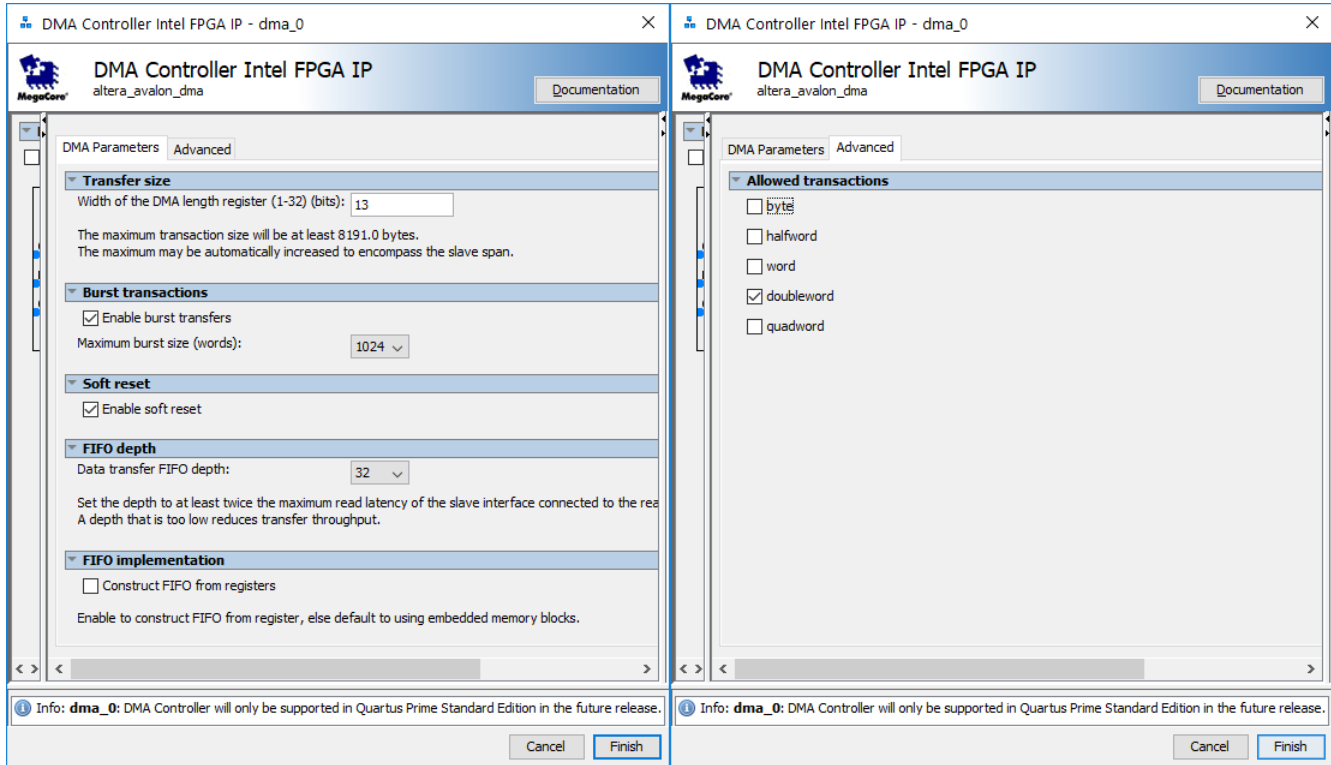

Figure 5. Settings for DMA Controller.
- Click **Finish**, then the DMA Controller *dma_0* is added to the Platform Designer system. Figure 5 shows the screenshots of the settings.